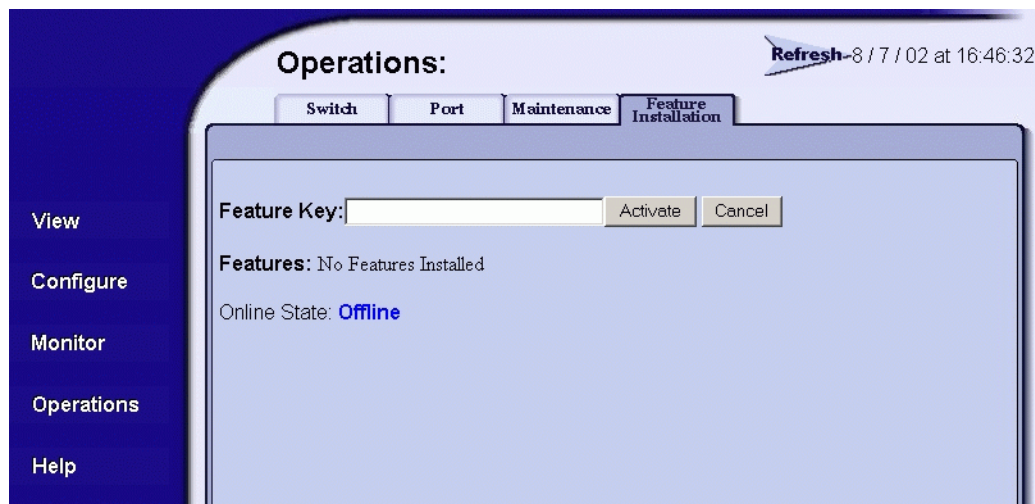

Figure 2-24 Operations Panel (Feature Installation Tab)
3. Click the *Feature Installation* tab. The *Operations* panel opens with the *Feature Installation* page displayed (Figure 2-24).